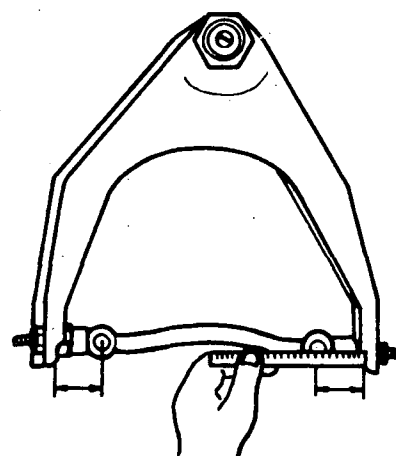

Fig. 2
- d) Make sure that the pivot of the suspension arm remains centred (fig. 2).